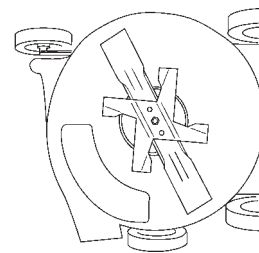

Figure 15
3. Tip the lawn mower onto its right side (Fig. 15).